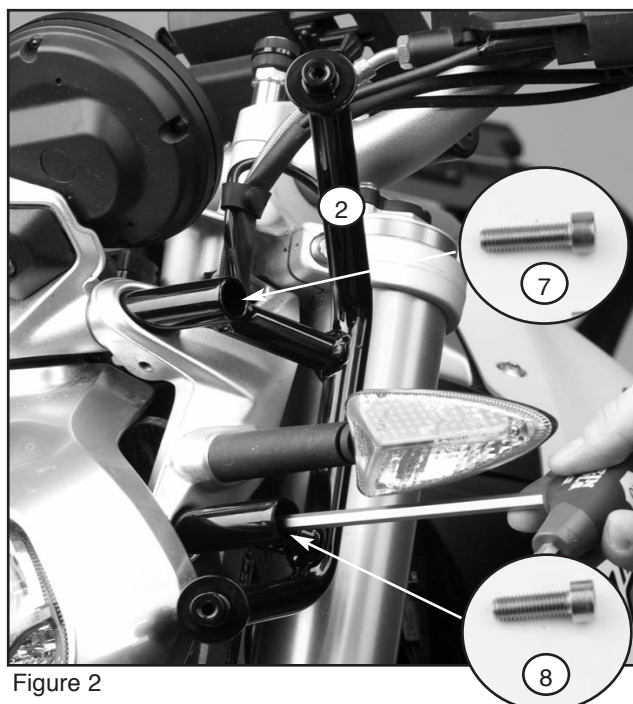

Figure 2
2. Use a M8 x 30 Screw (7) from Bag#1211 to install the Bracket (2) at the Upper hole of the turnsignal bracket. **(6mm Hex Key Wrench) Figure 2**
3. Use a M8 x 25 Screw (8) to mount the bracket (2) to the turn signal bracket at the lower hole. **(6mm Hex Key Wrench) Figure 2**